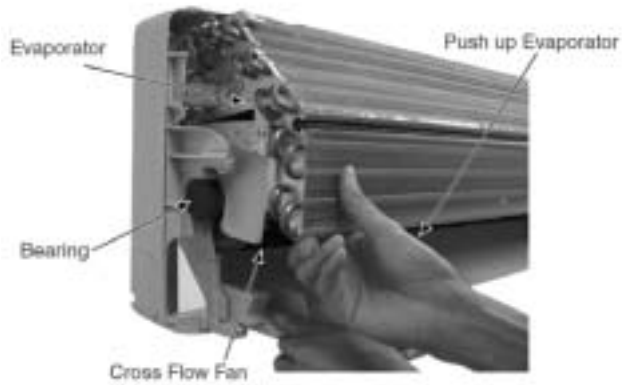

Fig. 9
– Remove the Bearing. (Fig. 9)
– Push up the Evaporator and pull out the Cross Flow Fan from shaft. By then, Fan Motor can be taken out. (Fig. 9)